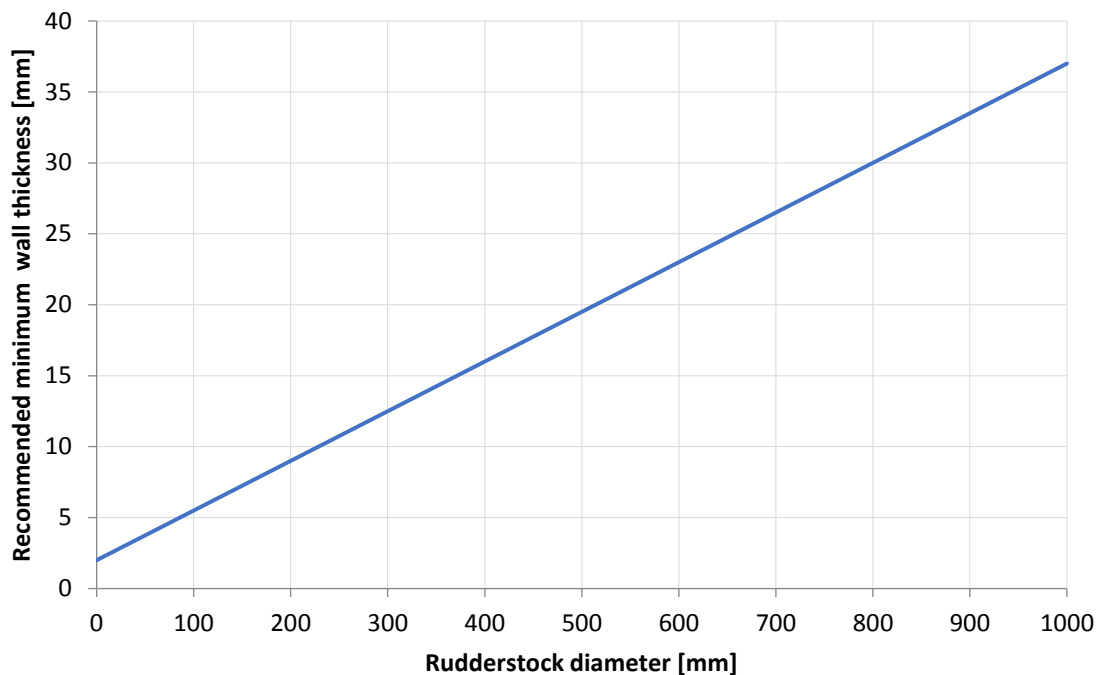

Figure 3.1: The recommended minimum wall thickness of the bearing related to the rudderstock diameter in mm.
NMB AS recommends a minimum bearing wall thickness (WT) that can be calculated with the equation below or determined by Figure 3.1.